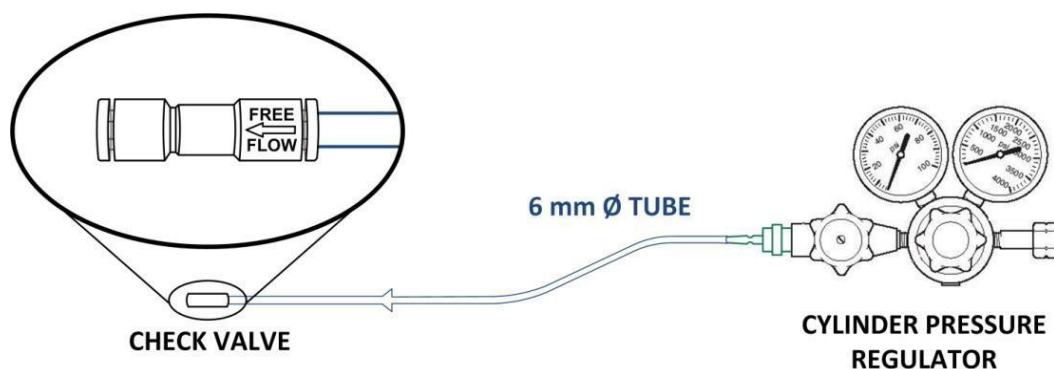

Figure 3-5
- 3. Check valves (Only for CO₂)**- Install the Check valves (provided in the package) along the gas line for each of the gas source in use. To do so, take the free end of the tube previously connected to the pressure regulator and insert it in the check valve through the push-in connector. Check valves allows the gas to flow through them in only one direction. Therefore, the check valves must be installed in the direction of flow sense, i.e. from the cylinder to the Gas blender (Figure 3-5). In case of different valves type use, please contact the MCQ INSTRUMENTS support center.